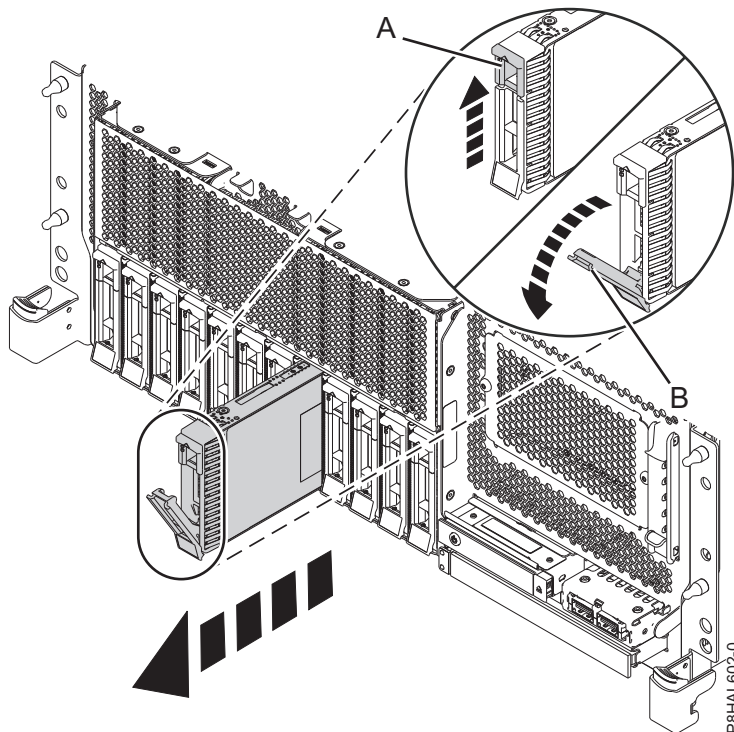

Figure 87. Removing a disk drive from a rack-mounted base function system
4. When the identify LED turns on solid, unlock the drive bay handle (**B**) by pressing the handle latch (**A**) and pulling it out toward you, as shown in Figure 87, Figure 88 on page 96, Figure 89 on page 97, and Figure 90 on page 98. If the handle is not all the way out, the solid-state drive cannot slide out of the system.